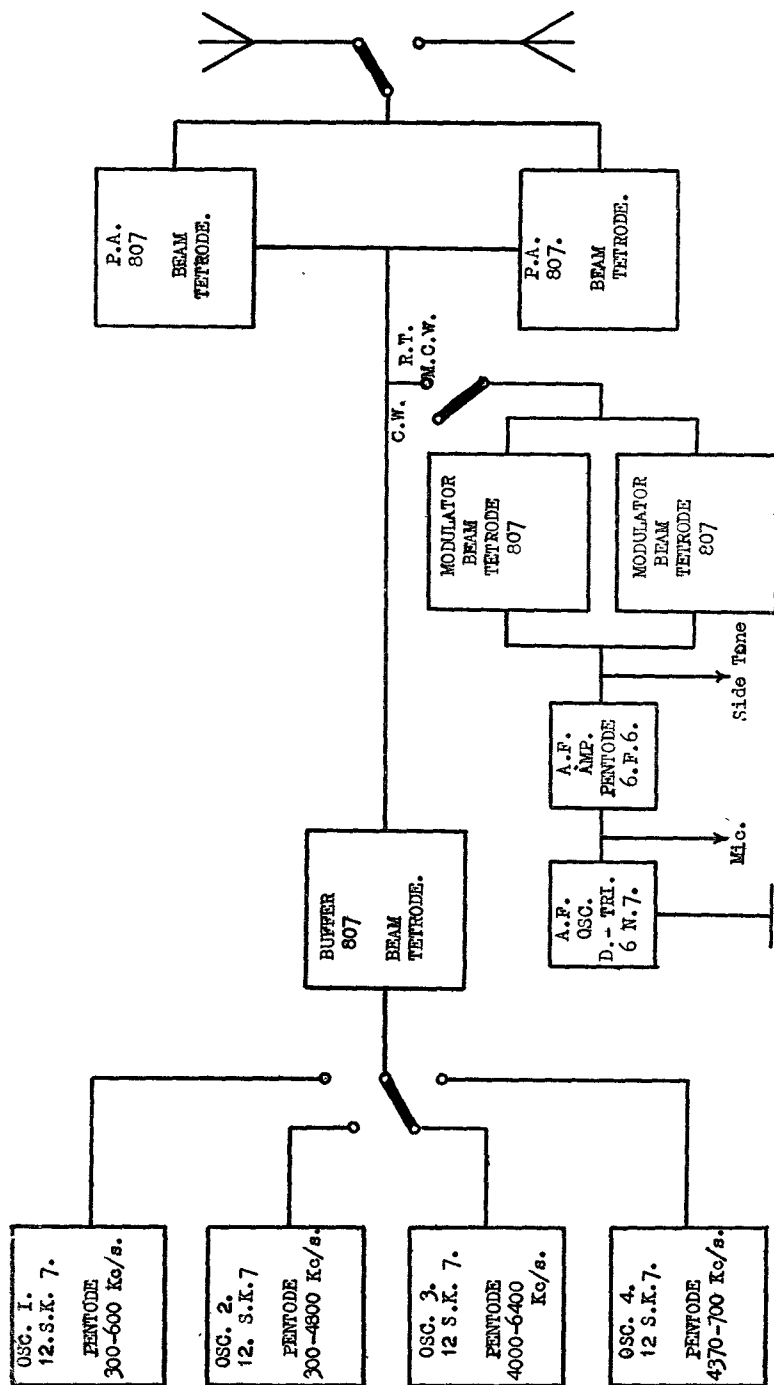

FIG. 92.—Block diagram transmitter, T.A.—12B.
3. **Transmitter** (block diagram fig. 92).—(i) *Frequency range.*—There are four ranges :—